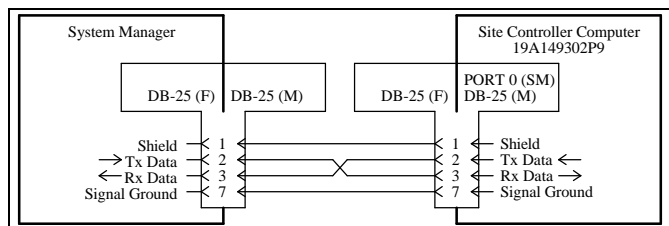

Figure 9 - System Manager Data Link without Modems
When the distance between the System Manager and the EDACS Site Controller is approximately 50 feet or less, a modem should not be necessary at each end of the data link between them. In this is the case, the data link from the System Manager may be connected directly to the Site Controller. Pin-out information is shown in Figure 9.
If the distance between the System Manager and the EDACS Site Controller is approximately 50 feet or less, connect the telephone line (or equivalent circuit) from the System Manager directly to Port 0 (SM) on the back of the Site Controller (see Figure 9). (You will need to disconnect the cable from the System Manager Modem first, if a System Manager Modem was supplied.)